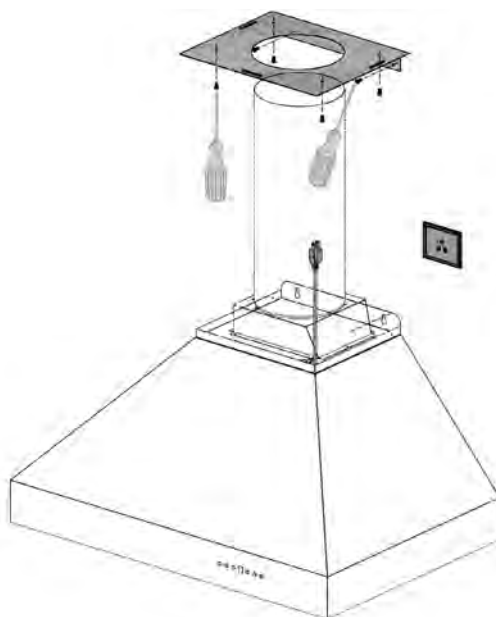

*Figure 1*
1. Attach crown molding bracket to ceiling using hardware provided. *Figure 1*